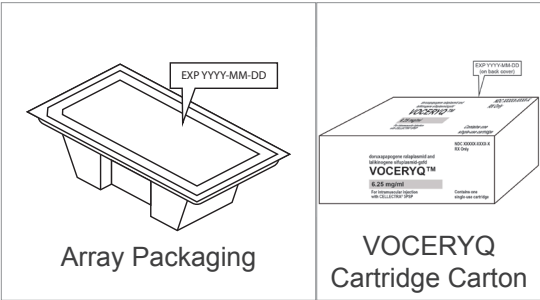

Figure 37 Array Packaging and VOCERYQ Cartridge Carton
2. Inspect the packaging and verify the expiration date (both Array and VOCERYQ Cartridge) (see Figure 37).